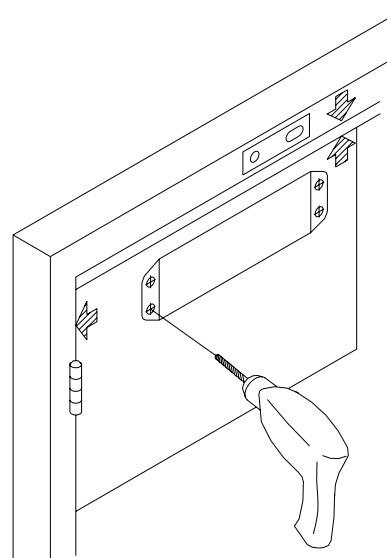

Fig. 2
3. Drill pilot holes in door and frame according to easi-fit template & securely fix door closer body with screws supplied. Ensure adjusting screws face hinge side of door. (See **Figs. 2 & 3**)